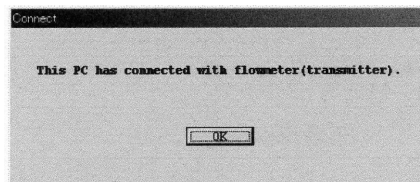

Fig.9
- ⑦ Unless associated equipment and devices are connected correctly, proper communications will fail to take place.
- ⑧ Upon completion of connections, a message box like the one in Fig. 9 appears. Click "OK" button.